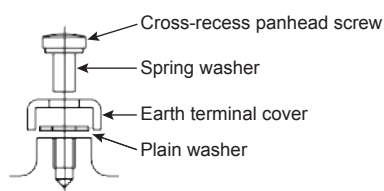

Figure 10.1—Earth ground terminal
2. If external wiring is used, ensure that the grounding wire is connected with the earth terminal cover and plain washer as shown in Figure 10.1.